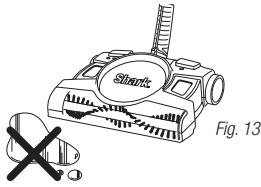

Fig. 13
- 2 Do not immerse your floor and carpet sweeper in water or use it to pick up liquids or clean wet floors. (Fig. 13)